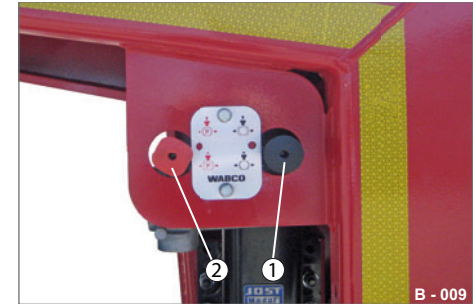

Fig. 14 Operating console
- Press the release valve (Fig. 14/1).
- Pull the release valve (Fig. 14/1).